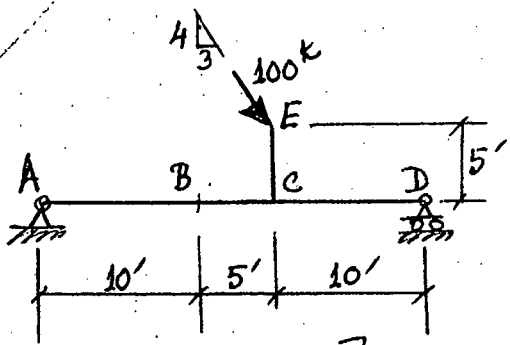

Fig. 7
8. Compute vertical displacement and rotation at B of the structure shown in Fig. 7 due to the 100 kip load applied at E. Given: $E = 30,000$ ksi; $I = 360$ in⁴; $A = 16$ in² throughout. (21)